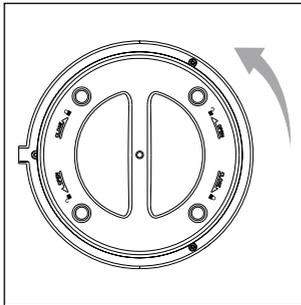

Fig. 3
3. Turn the housing cover **9** on the bottom of the appliance a little way anticlockwise in the **OPEN**  direction to open it (see fig. 3). Then remove the housing cover **9** from the appliance.